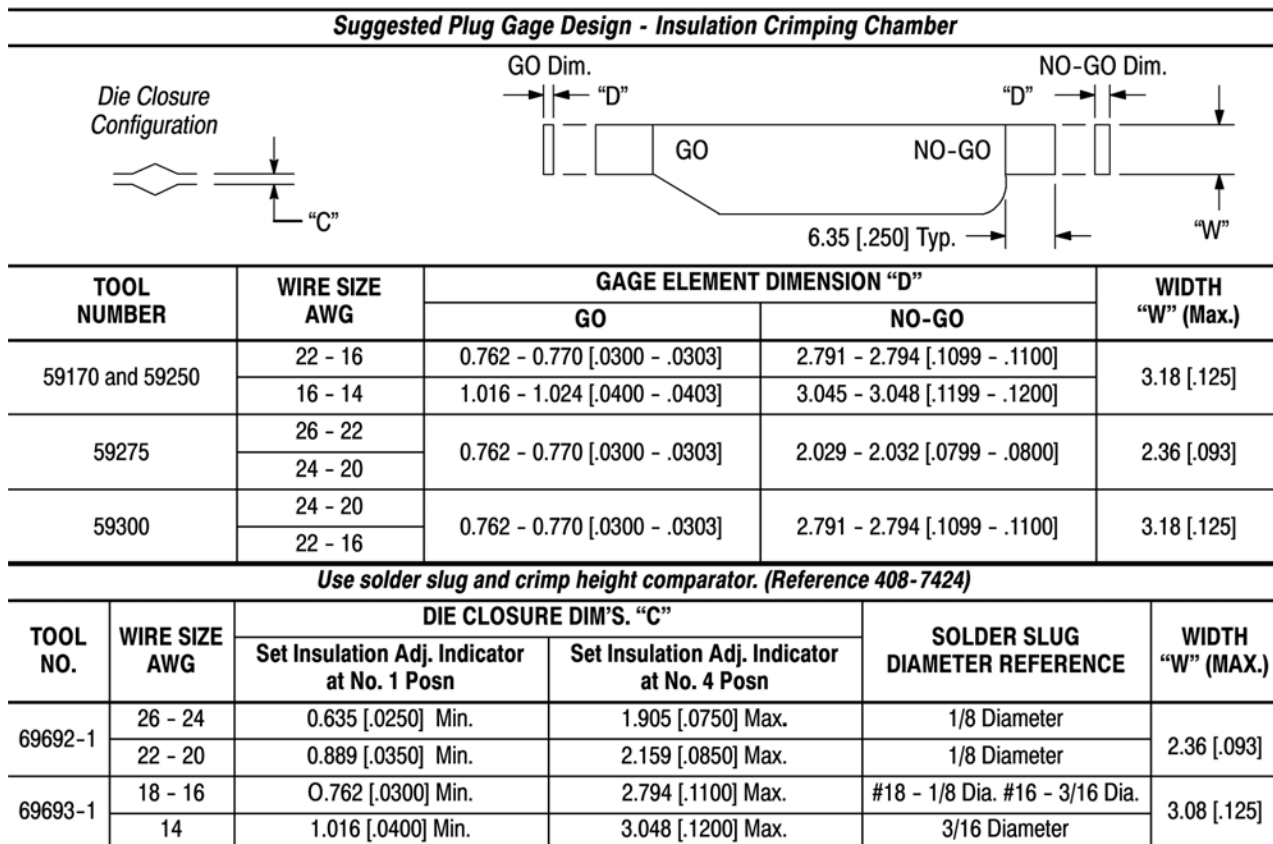

Figure 10
This inspection requires the use of plug gages conforming to the dimensions listed in Figure 9 and Figure 10. Tyco Electronics does not manufacture or market these gages. Refer to 408-7424 for information concerning plug gages
This inspection requires the use of crimp height comparators, solder slugs, and the dimensions listed in Figure 10. Tyco Electronics does not manufacture or market crimp-height comparators. Refer to 408-7424 for information concerning comparators.
3. Insert proper solder slug into one crimp chamber (see Figure 9 and Figure 10) and cycle tool.
5. Measure the compressed area for the insulation-crimping chamber and check for compliance to the GO dimensions in Figure 10.
8. Measure the compressed area (of the solder) for the insulation-crimping chamber and check for compliance to the NO-GO dimensions in Figure 10.